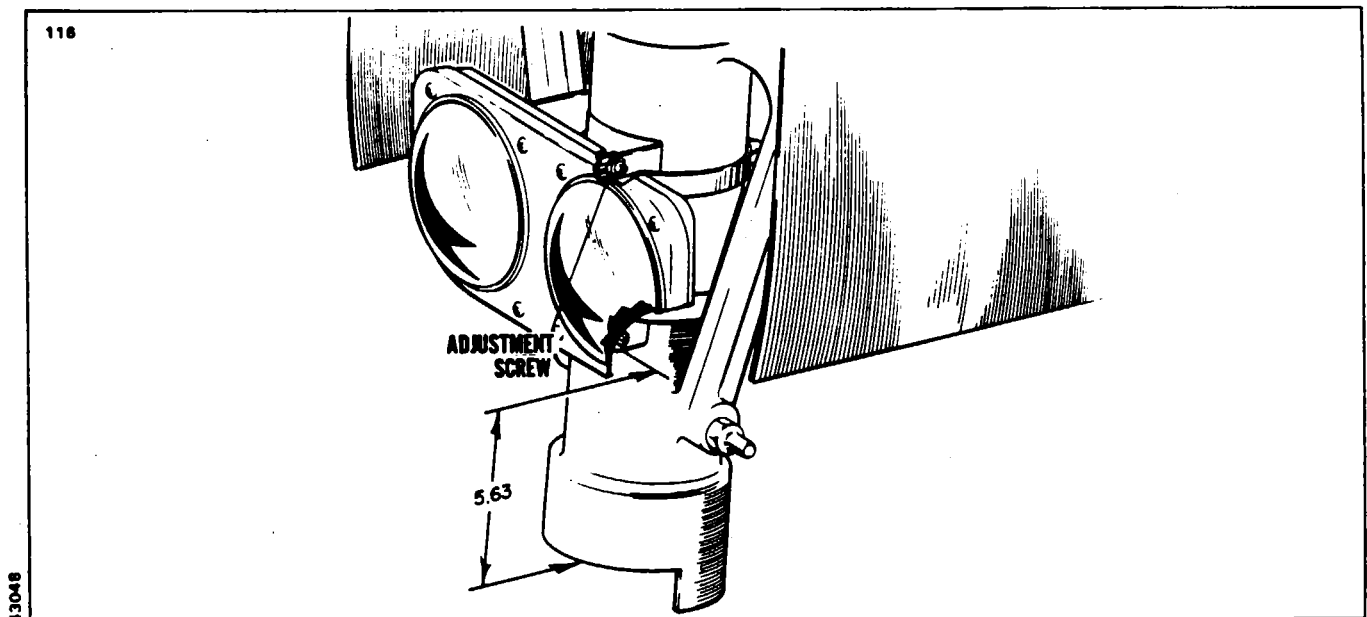

Figure 33-1. Landing Taxi Light Installation
2. To install the landing light assembly, position the assembly against the strut housing with the bottom of the mounting bracket 5.63 inches up from the bottom of the housing. (Refer to Figure 33-1.) Align the bracket longitudinally secure with clamps. The light beam angle may be adjusted by the adjustment screws at the side of the bracket and tilting as desired.